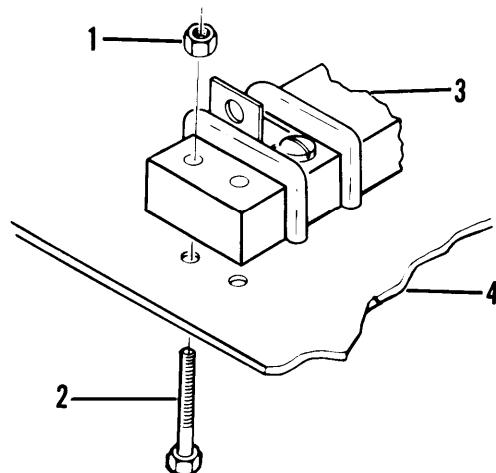

Figure 4-6. Terminal Board
- (2) Remove four nuts (1, fig. 4-6) and bolts (2).
- (3) Remove terminal board (3) from nose box cover (4).
- (4) Repeat steps 1 through 3 for other terminal board.
- (1) Install terminal board (3, fig. 4-6) to nose box cover (4).